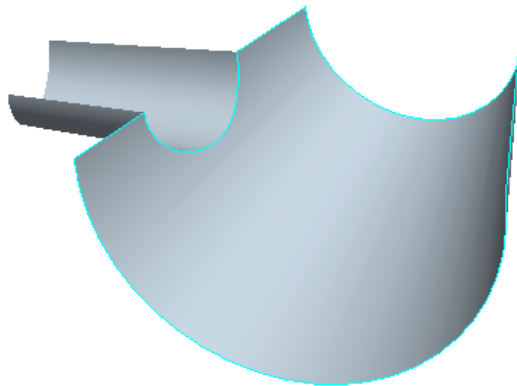

Figure 13-46 Merged surface
3. Choose the Preview button and then exit the dashboard. The resulting merged surface is shown in Figure 13-46. This merged surface is a single surface and now can be converted to a solid feature.